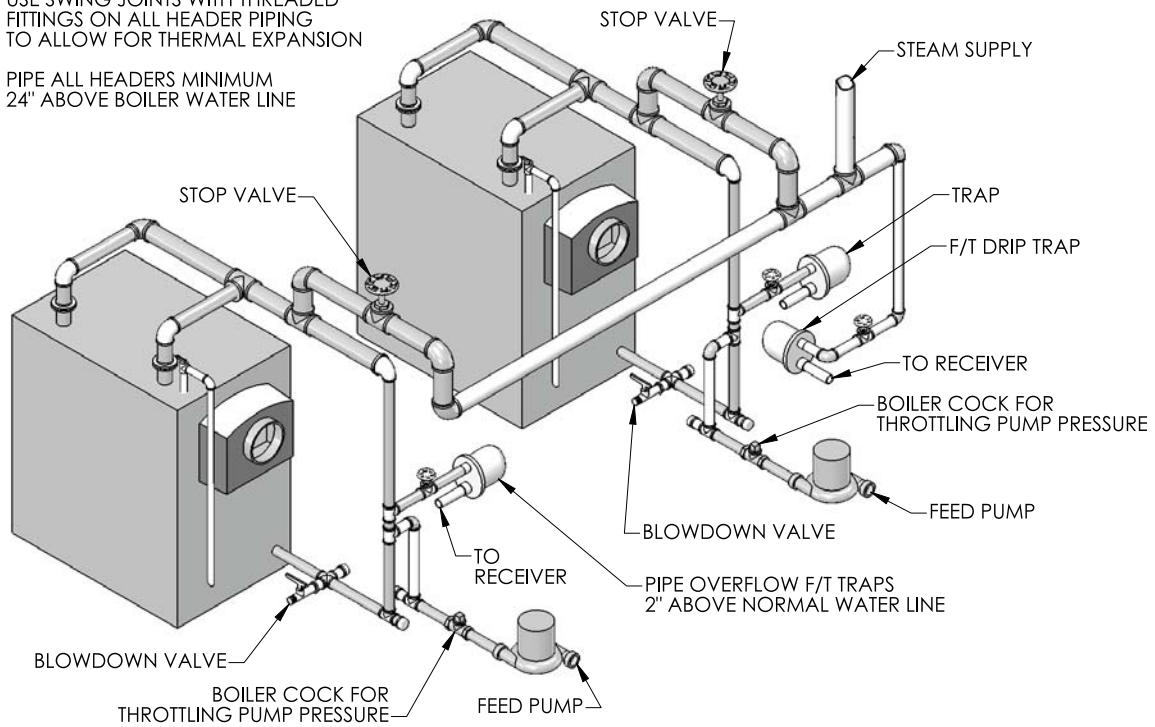

Figure 3.5: Multiple Steam Boiler Piping - Pumped Return
- 2. Figure 3.5 shows typical piping for multiple steam boiler pumped return systems.